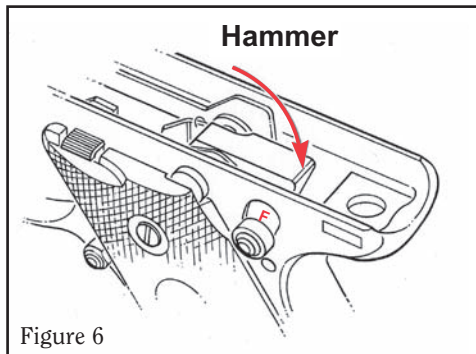

Figure 6
1. **Be certain the pistol is free of cartridges!** The safety must be in the "off" (F) position for reassembly.
2. Keep your finger off the trigger. Place the hammer in the horizontal (cocked) position. (The hammer is visible by looking down on the grip frame and is the rectangular object inside the grip frame and near the rear. See Figure 6.)